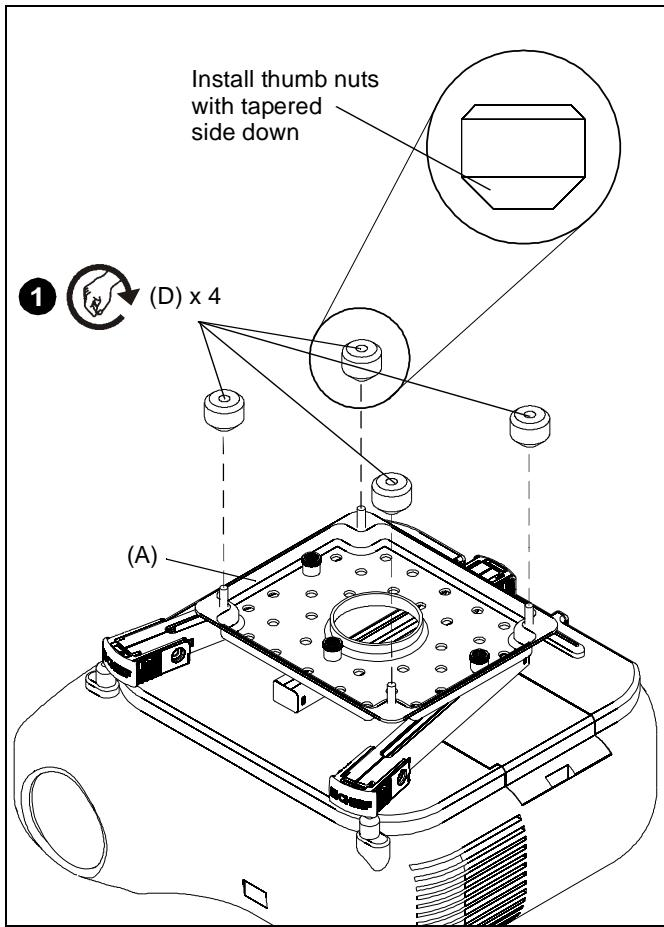

Figure 8
- On SLBU, partially install four thumb nuts (D) to SLBU main plate screws. Be sure to install thumb nuts with tapered side down. (See Figure 8)